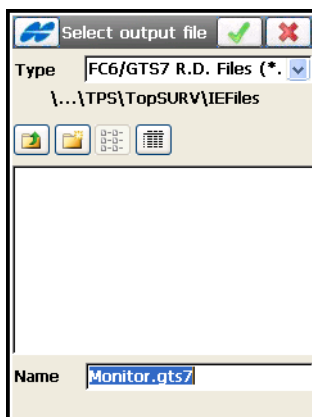

Figure 3-63. Select Output File
- – browses for the destination of the file and sets the default file extension (Figure 3-63).